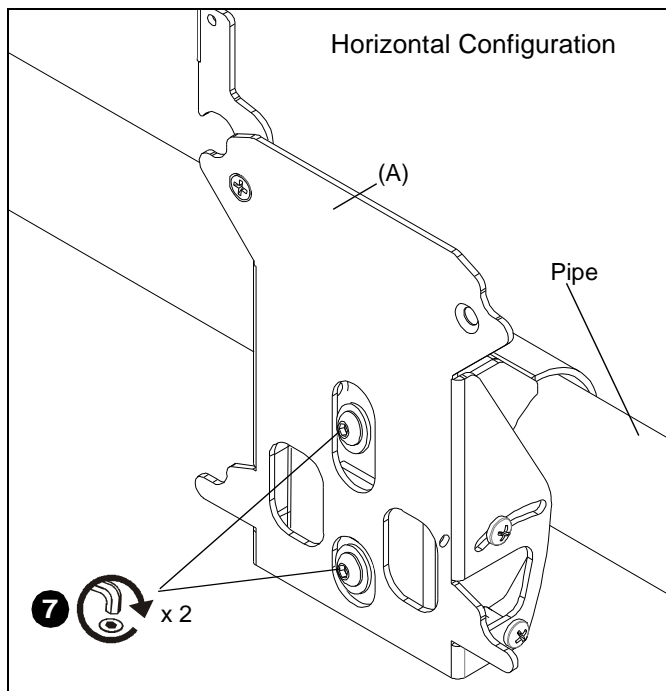

Figure 4
6. Slide FSP (A) onto a 1-1/2" to 2" O.D. pipe for horizontal mounting.
7. Secure FSP (A) to pipe by tightening two button head cap screws already in place in FSP. (See Figure 4)